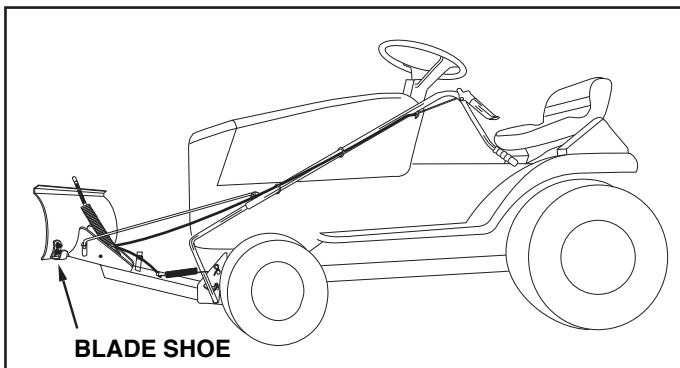

FIGURE 24
- The blade shoes at the ends of blade may be raised for close work on smooth surfaces or lowered to raise the blade to work on rough or uneven areas. Make sure both shoes are set evenly and that the nuts are tightened securely. See figure 24.